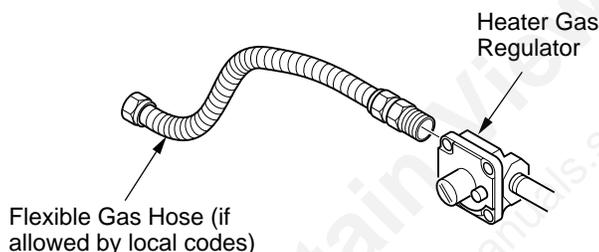
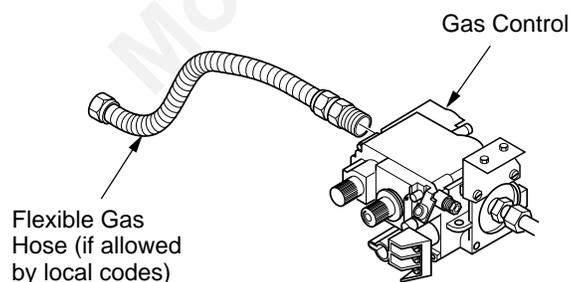

Figure 11 - Attaching Flexible Gas Hose to Heater Gas Regulator (Variable Manually-Controlled and Thermostatically-Controlled Models Only)
Figure 12 - Attaching Flexible Gas Hose to Heater Gas Regulator (Remote-Ready Models Only)
1. Apply pipe joint sealant lightly to male threads of gas fitting (not provided). For Variable Manually-Controlled and Thermostatically-Controlled Models connect approved flexible gas hose to gas regulator of heater (see Figure 11, page 11). For Remote-Ready models connect approved flexible gas hose to inlet side of gas control (see Figure 12, page 11).